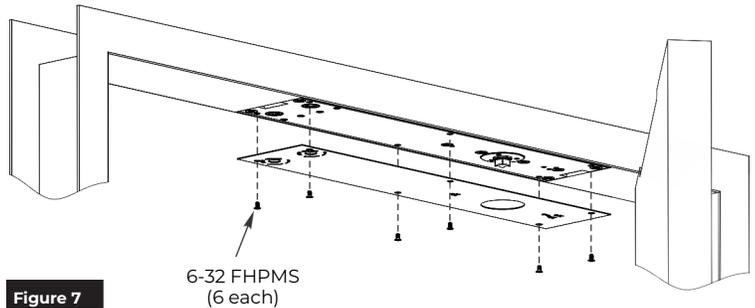

Figure 7
1. Install cover plate to closer body with six (6) 6-32 x 1/4" machine screws. (Figure 7)